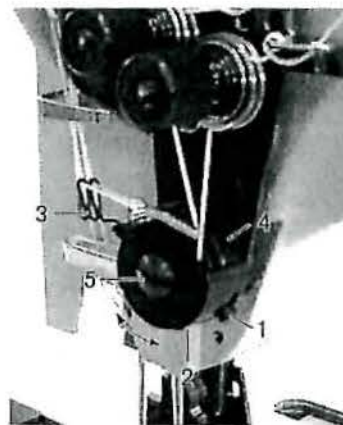

Fig. 30
20. ADJUSTMENT OF THE THREAD CONTROLLER SPRING (Fig. 30)